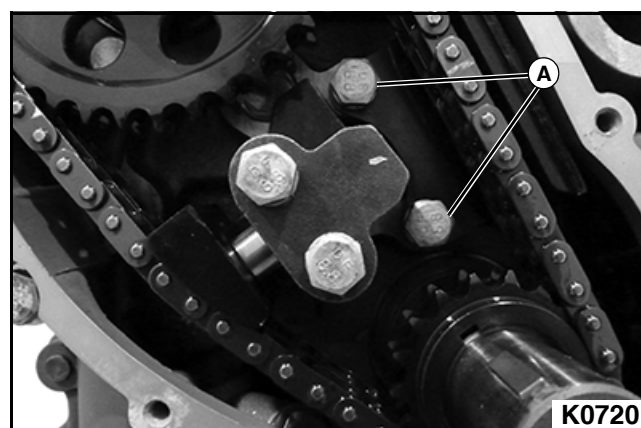

Figure 3-159
2. Remove two bolts (A) securing timing chain damper to cylinder block and remove damper. **See Figure 3-159.**